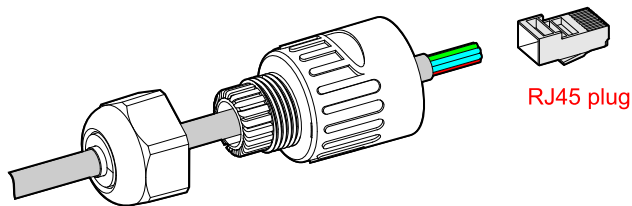

Figure3-30 Crimp the wires of RJ45 plug
- Step 1 Strip the insulation layer of communication wire by wire stripper, loosen the lock nut of waterproof RJ45 connector and then draw the communication wire through the RJ45 connector and crimp it to the RJ45 plug, as shown in Figure3-30.